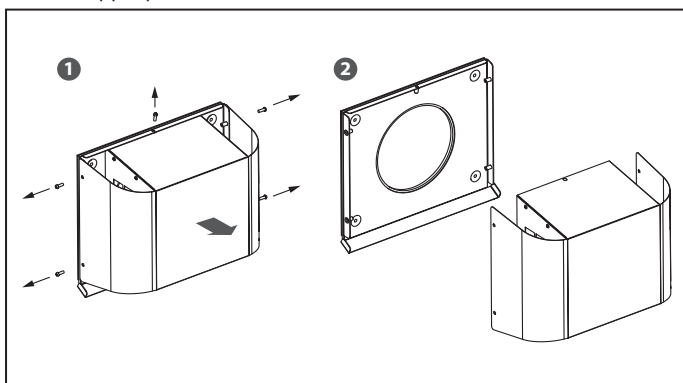

Fig. 12b.
- Fig. 12b – VENTO Ergo A25-1 S Pro model. Loosen 5 screws and take off the upper part of the outer ventilation hood.